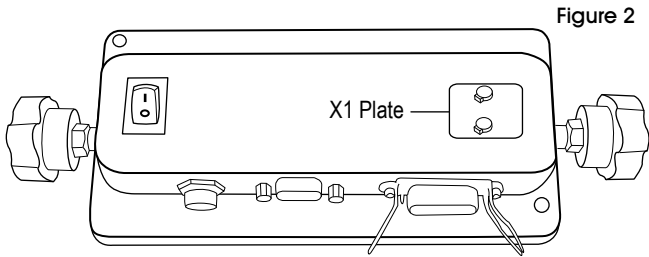

Figure 2
1. Turn power off. Remove 'X1' plate from bottom of display to expose calibration switch. (See Figure 2)